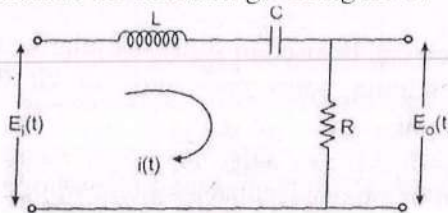

Figure 1
- 2.a) Find the transfer function of the network given figure 1.